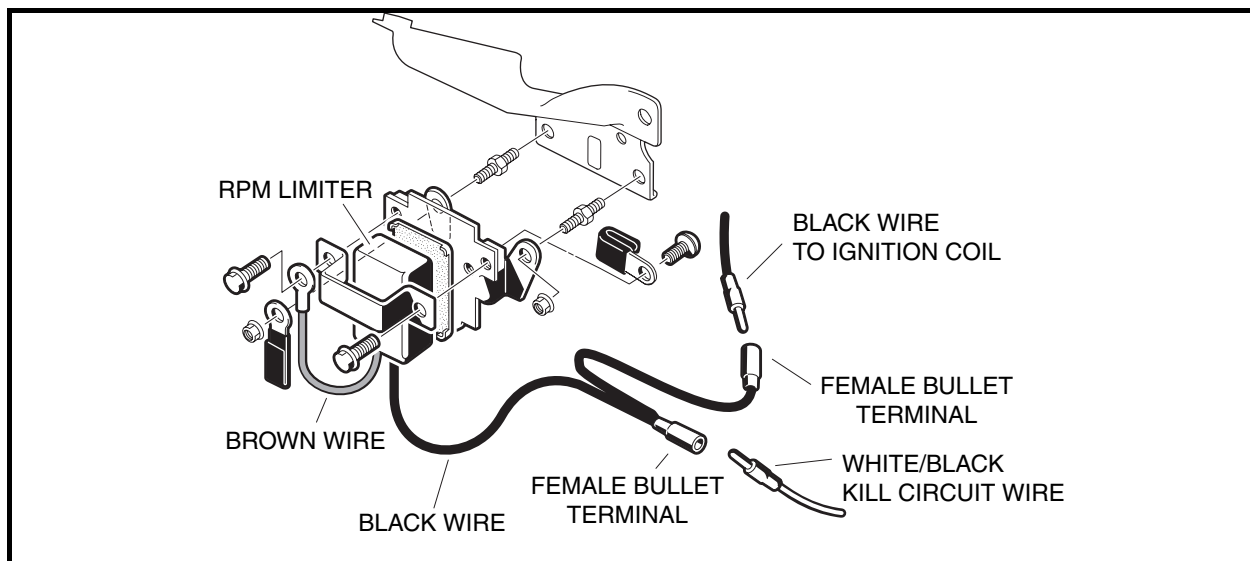
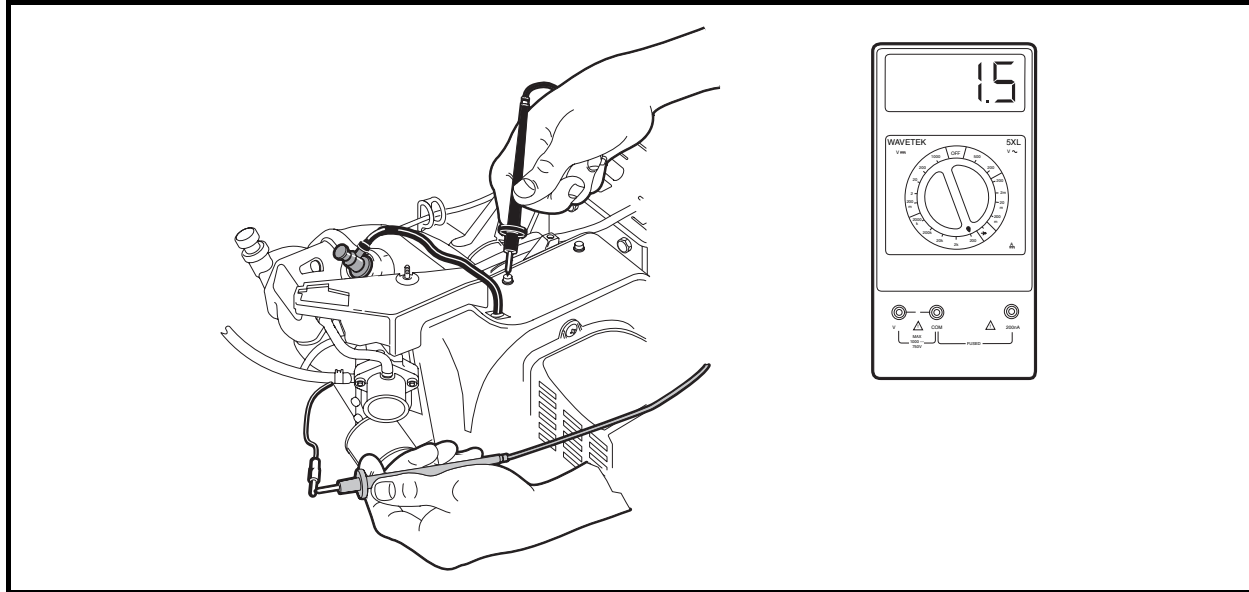

Figure 11-23 RPM Limiter
Figure 11-24 Primary Coil Resistance – In Vehicle Test
3. Disconnect both of the bullet terminals (**Figure 11-23, Page 11-23**).
- 3.1. Disconnect both of the bullet terminals at the RPM limiter (**Figure 11-23, Page 11-23**). Place the red (+) probe of the meter on the male bullet terminal of the wire connecting to the ignition coil under the fan housing, and place the black (-) probe on a clean unpainted surface of the engine or frame (**Figure 11-24, Page 11-24**).